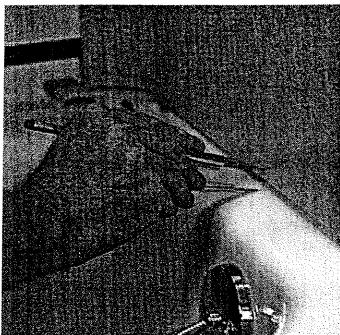

Figure 2
*If the gap is 1/8-inch or wider* at any point, you'll need to scribe the panel to the tub with your compass. See figure 2. But don't trim it yet!